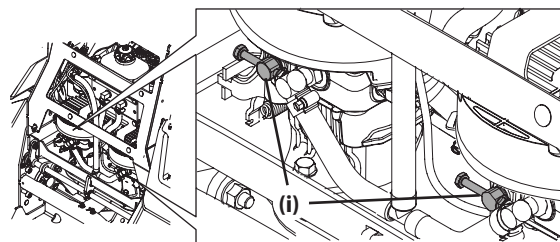

Figure 3
- d. Locate the hydrostatic transmissions and open the two bypass valves (i) a maximum of two turns. See Figure 3.